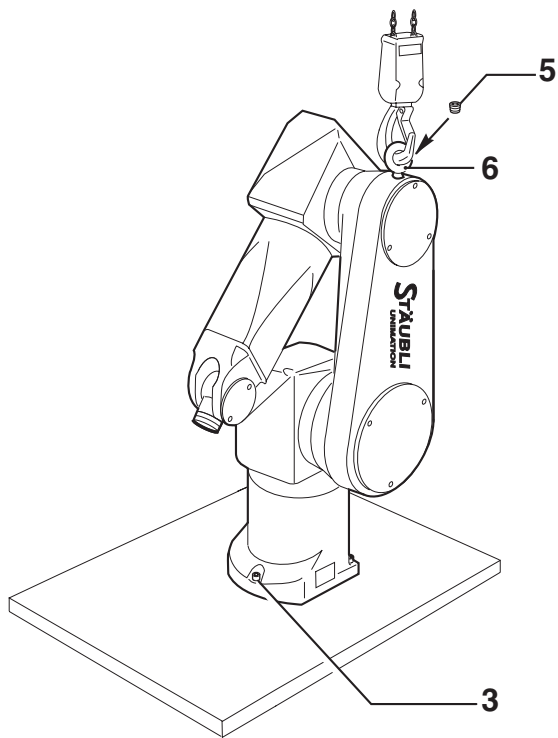

Figure 3.4
3.4.1. INSTALLATION OF ARM ON FLOOR (figure 3.4)
- Attach the arm with 4 class 12.9 M16 hex. socket head screws (3), tightened to 325 Nm ± 23 Nm.
- Unscrew the hoisting ring (6) and install the plug (5).